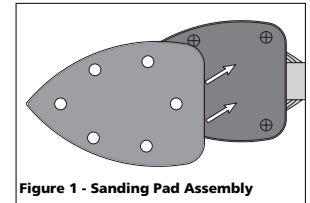

Figure 1 - Sanding Pad Assembly
2. Align and position sanding pad over backing pad. Press securely to hold in place (See Figure 1).